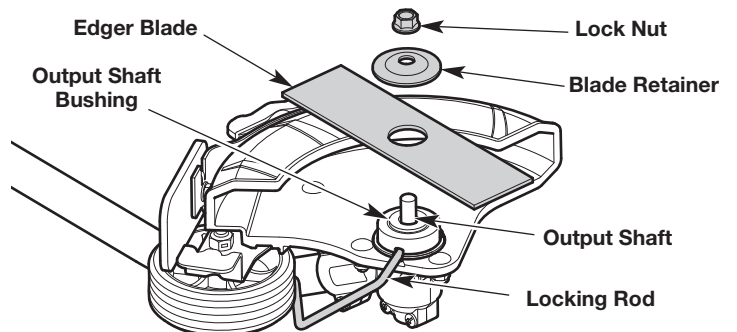

Fig. 26
4. Remove the locking rod. Remove the lock nut, blade retainer and edger blade (Fig. 26). Keep the lock nut and blade retainer for installing the new edger blade.
1. Lower the new edger blade onto the output shaft bushing (Fig. 26). Make sure the blade is flat against the output shaft bushing.
2. Place the blade retainer onto the output shaft with the flat surface against the blade (Fig. 26).
3. Screw the nut onto the output shaft (Fig. 26).